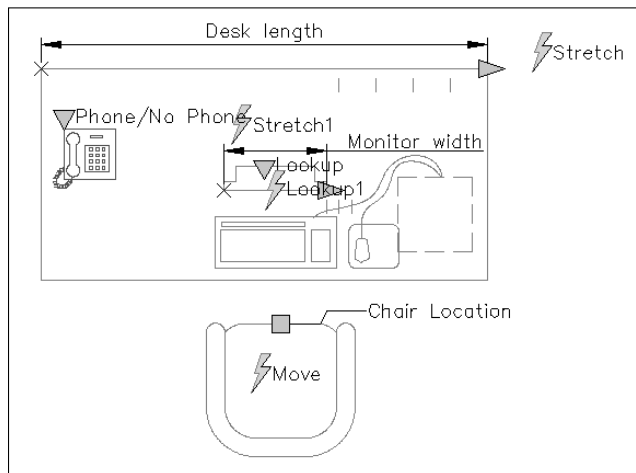

**Figure 18-26:** The completed dynamic block in the Block Editor.
23.  Your block should look like Figure 18-26. Click Save Block Definition on the Block Editor toolbar. At the message asking whether you want to update the block reference in the drawing, click Yes. Then click Close Block Editor. Save your drawing.